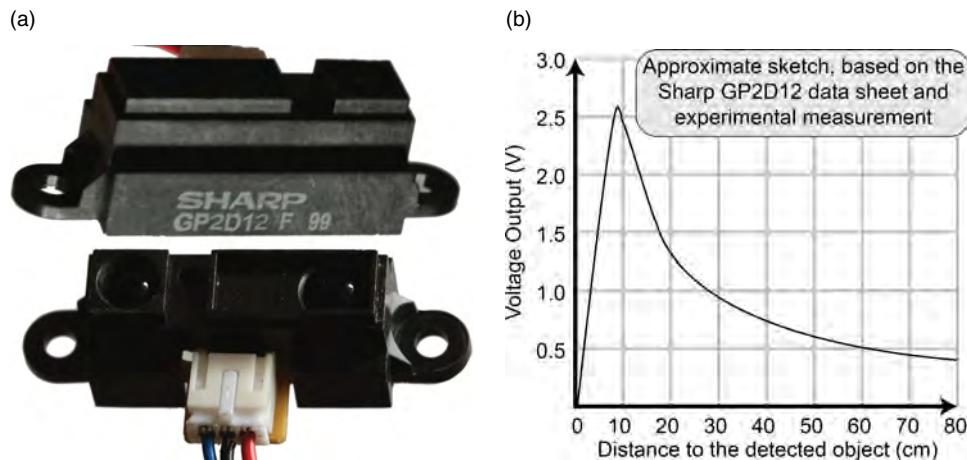

Figure 9-14: (a) Sharp infrared distance measurement sensor; (b) its analog output response
environments but have limited use in direct sunlight. They have a response time of ~39ms, so at 25–26 readings per second they will not provide dense range images. Figure 9-14(a) shows two aspect views of a low-cost sensor, the Sharp GP2D12.
1. The sensor response in Figure 9-14(b) is highly nonlinear, so that two different distances can give the same sensor output. Thus you need to find a way to disambiguate the sensor output. For example, if the sensor output is 1.5V, it could mean that the detected object is either 5cm or 17cm from the sensor. A common solution to this problem is to mount the sensor so that it is physically impossible for an object to be closer than 10cm from the sensor. This problem is not examined in further detail, and it is assumed here that the detected object cannot be closer than 10cm from the sensor.